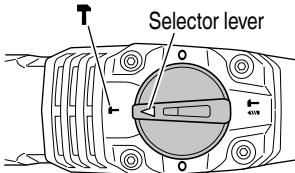

Fig. 16
(1) Switching to "hammering"
- Align ▲ of the selector lever and **T** of the crank cover as illustrated in Fig. 16.